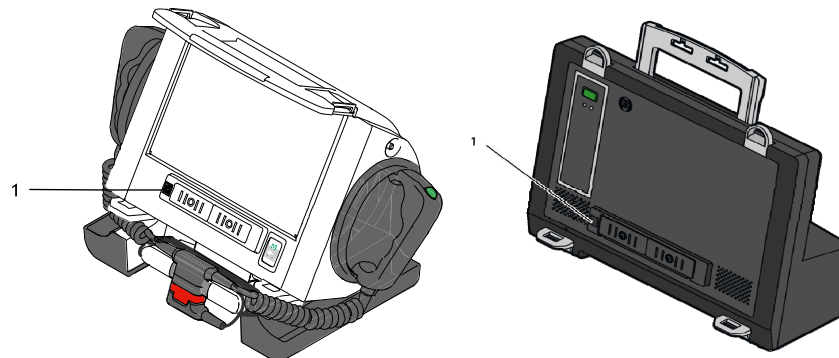

Fig. 10-6 Defibrillator/Pacer, infrared interface
8. Wipe the infrared interface of the defibrillator/pacer with a cloth (see Fig. 10-6, item 1).